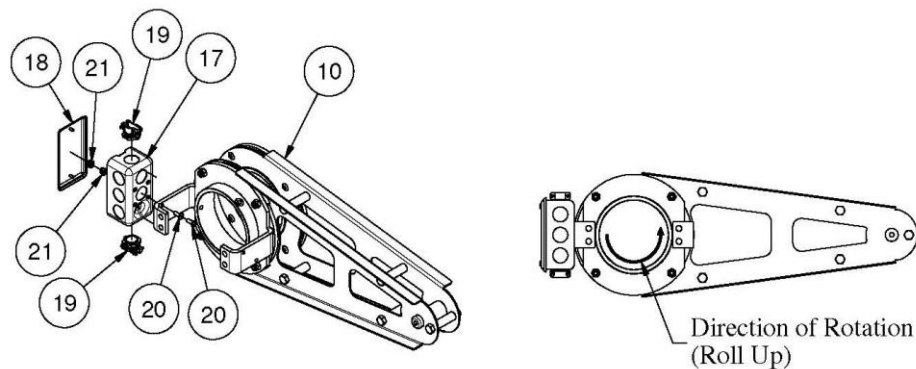

Figure 3
1. Pre-assemble the anti-torque arm on the floor before installing on the aluminum drive tube. Refer to Figure 3.
2. Determine the direction of rotation by looking at the end of the aluminum drive tube and the direction of the vinyl strip that were clamped in Step 4. Install the junction box (item 17) onto the side of the anti-torque arm (item 10) as shown in figure 3. Secure the junction box to the torque arm using two #10 x 1/2” screws and #10 nylon lock nuts.
3. Install a Romex connector (item 19) on the top and bottom openings of the junction box.
4. Install the junction box cover plate (item 18).